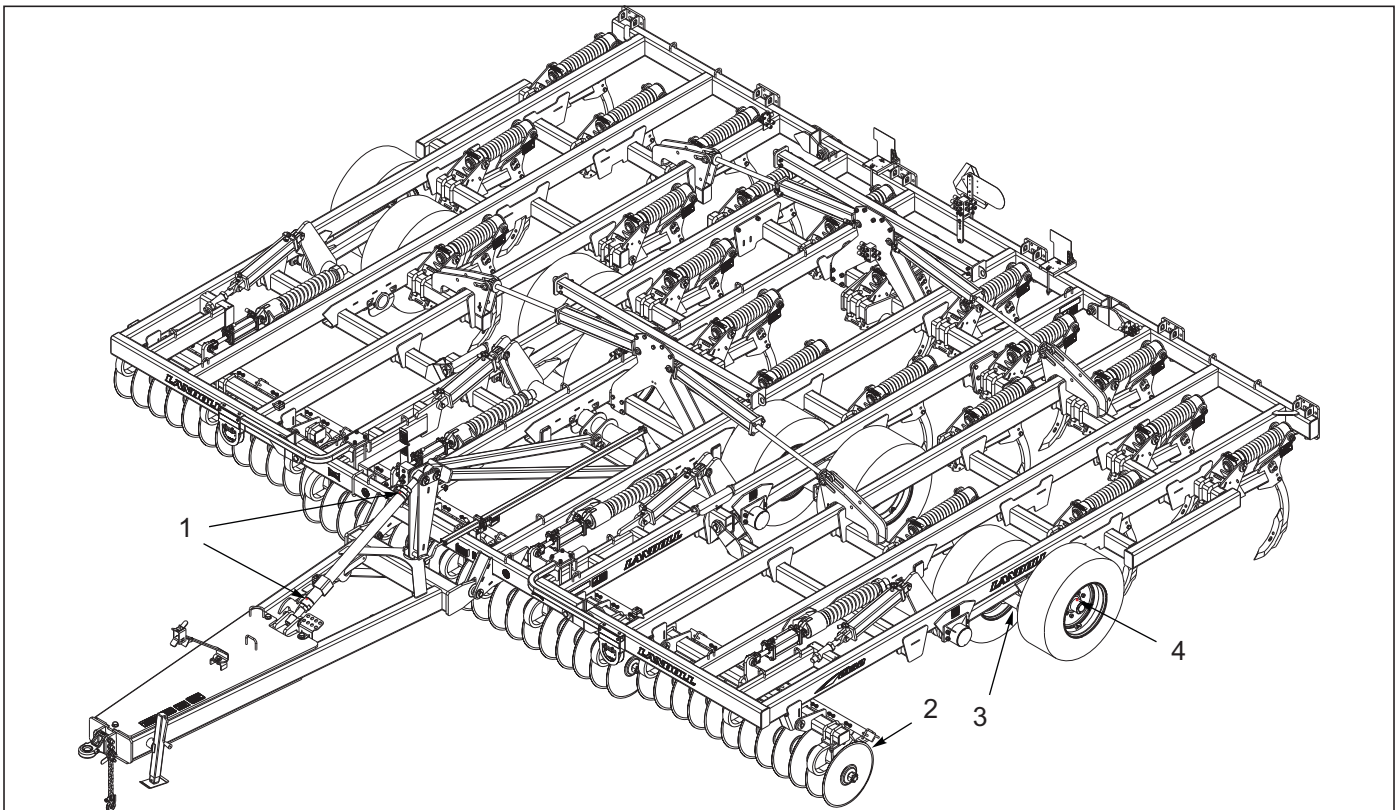

Figure 4-15: Lubrication Schedule
1. **Table 4-1** specifies the lubrication points and intervals on the 2132 Coulter Chisel. Proper maintenance of your machine will, under normal operating conditions, help to keep it operating at or near its peak performance for an extended period of time. Proper maintenance is also a condition of keeping your warranty in good status **See Figure 4-15.**